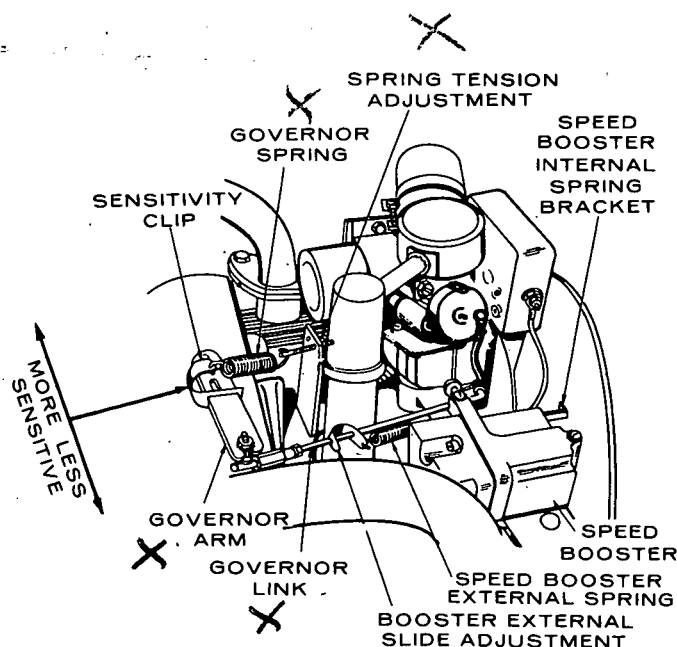

FIGURE 35. GOVERNOR AND SPEED BOOSTER LINKAGE
If carburetor and the following governor adjustments have already been made and the governor action is still erratic, replace the governor spring (Figure 35) with a new one and readjust the governor. Springs lose their calibrated tension through fatigue after long usage.
2. Remove the speed booster external spring from the bracket slide on the governor link (Figure 35).
3. Increase sensitivity (closer regulation) by shifting adjusting clip toward governor shaft (Figure 35). Move clip away from governor shaft to decrease sensitivity.